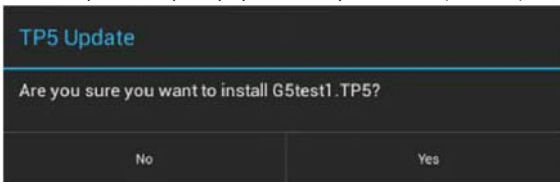

FIG. 139 TP5 Update prompt
5. The panel will prompt you to verify this action (FIG. 139):